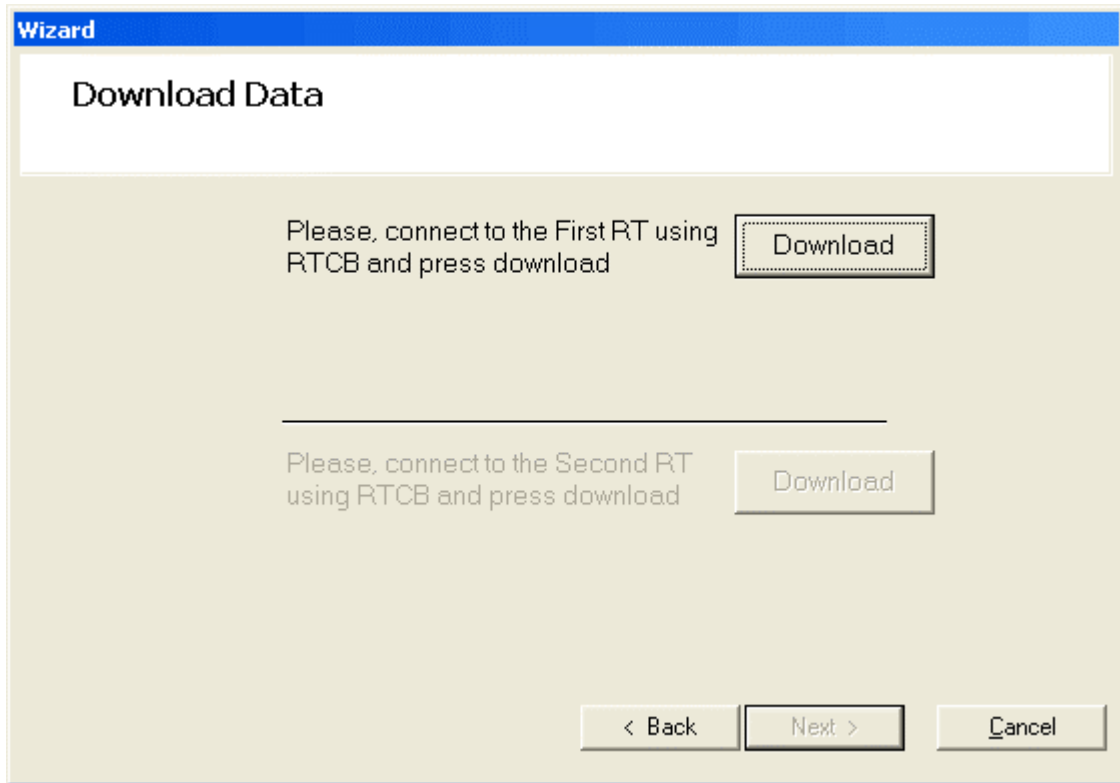

Figure 2-7. Download Data Dialog Box
1. Make sure that the management station is connected to the 10/100 LAN port of the RTCB, and click the Download button in the Download Data dialog box (see Figure 2-7).